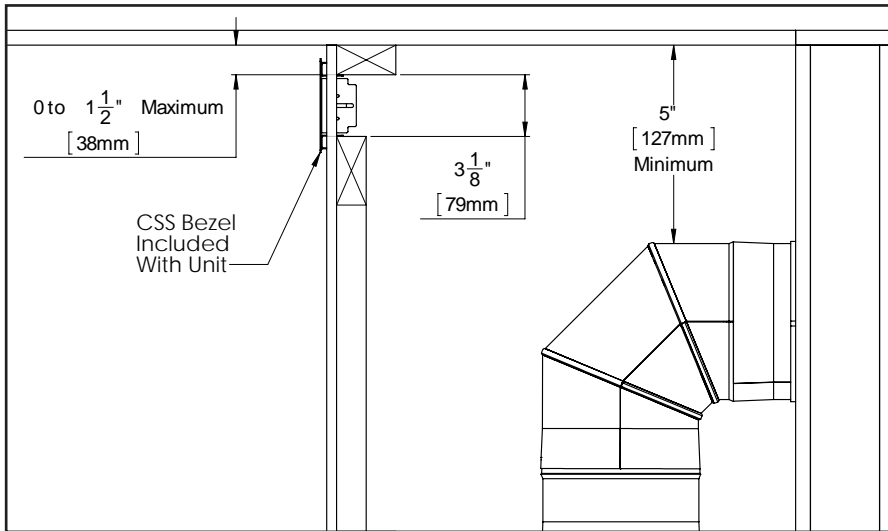

Figure 45: Option 3 Bezel
**Option 4: Bezel** - The included bezel may be desired to accentuate the CSS outlet. This installation will also cover the edge of the finishing material at the cutout. Construct the framing in a way that provides a 48 inch (1219mm) by 3 inch (76mm) cutout to mount the bezel. The top of the cutout must be 1 1/2" from the top of the chase. It is essential that these dimensions are followed and not to deviated from them when using combustible materials inside the chase (see Figure 45).